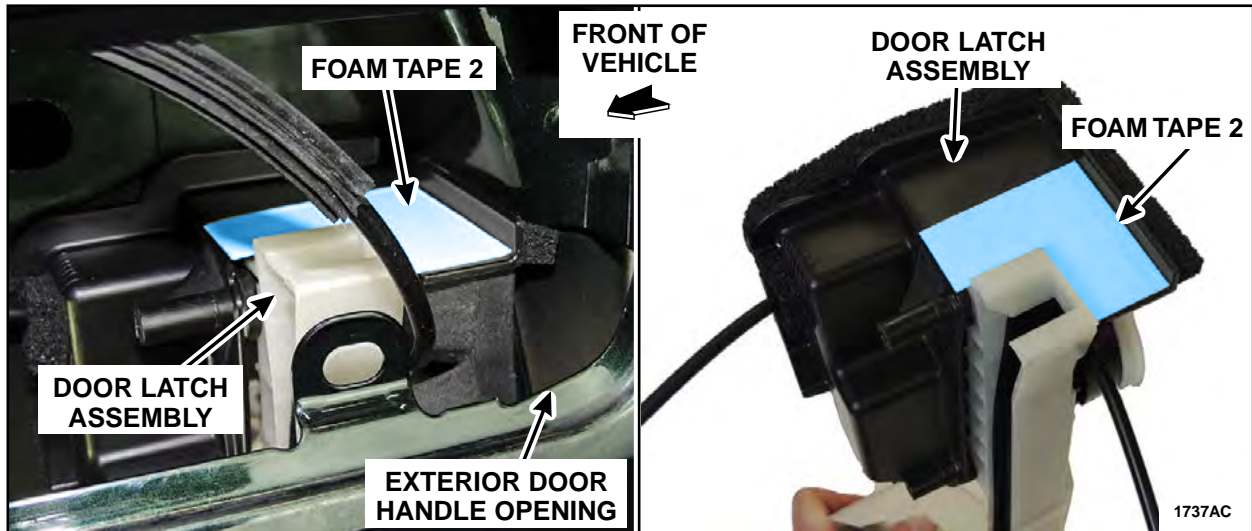

FIGURE 77
3. Clean the highlighted area on top of the door latch water shield with isopropyl alcohol and a clean shop cloth where the Foam Tape 2 will be installed. See Figure 77.